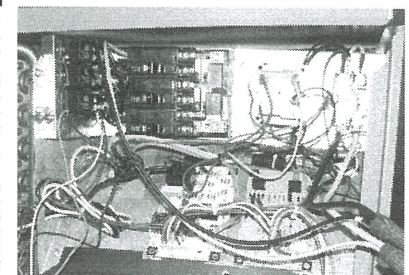

FIG. 3- Control panel installed.
2. Secure heater control plate to the upper left side of the unit control panel box with (4) screws provided (see fig. 3).
3. **50ZPA, 564B, PA3Z, PAT3, 50ZHA, 664B, PH3Z, PHT3 units:** Connect the (5-pin) low voltage harness plug from the heater to the fan control board at position **P4** located inside the unit control box compartment (see fig. 3). Connect Black & Yellow "pigtailes" from unit contactor using the connectors provided with the heater.